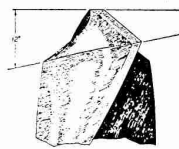

Fig. 11A
**THE PROPERLY GROUND DRILL:** Two rules are especially important when grinding drill points. 1. The lip clearance angle (Fig. 11A) should be between 12 and 15 degrees. 2. The two cutting edges must be of equal length and angle. In Figs. 11A, 11B, 11C, the properly ground drill point is shown. Refer to these figures when grinding a drill—they will aid in grinding drills which will cut true-sized holes with a minimum of drill wear.